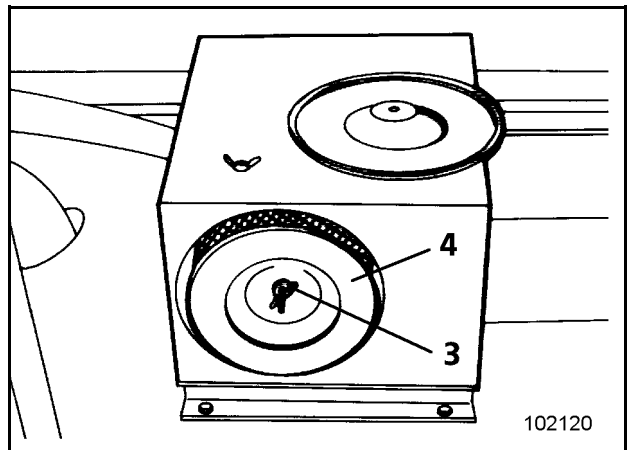

Fig. 9
- Remove main filter element (4, Fig. 9) as described above.